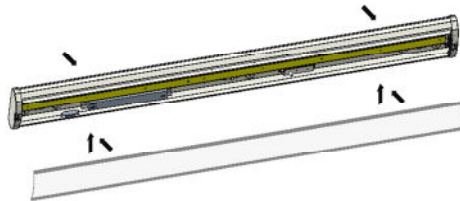

Fig. 6
- Attach lens (Fig. 6) by aligning lens groove with the edge of the channel. Ensure the lens groove is secured along the entire length of the lens on both sides. Remove protective film from lens.